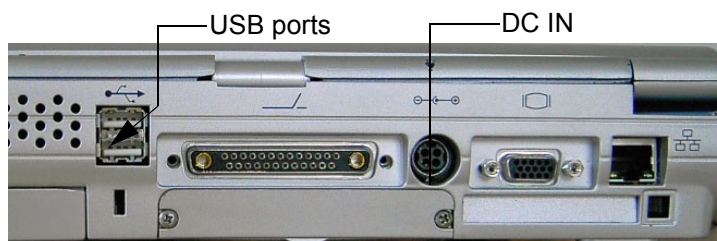

Figure 3-85 Main Power Connector (DC In) - Rear Panel
- 3.) Connect the L-shaped circular plug of the main power cable (via the AC Adapter) to the Power Inlet DC In connector on the rear of the Voluson i / Voluson e system (see: Figure 3-85).